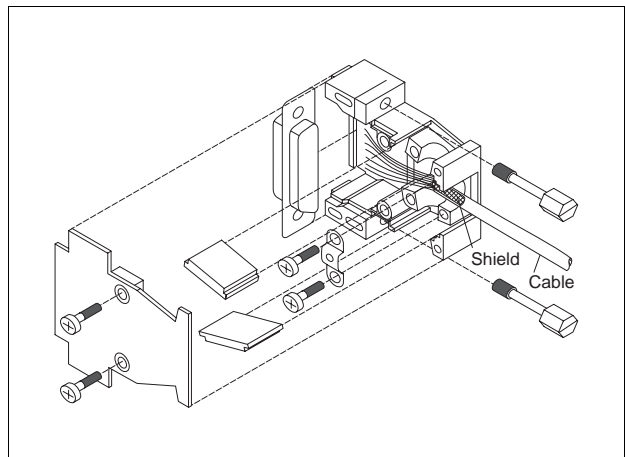

Fig. 2-15 Interface connector assembly
- Screw two hexagon head bolts (fig. 2-15) into the connector shell.